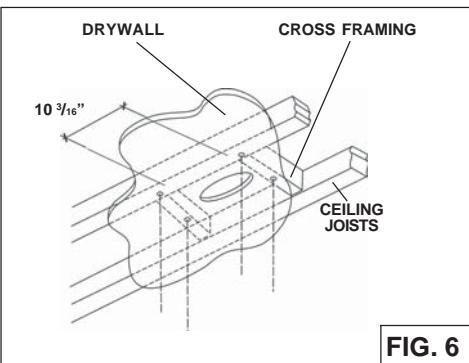

FIG. 6
- Finish the ceiling surface. Be sure to mark the location of the ceiling joists and cross framing (Fig. 6).